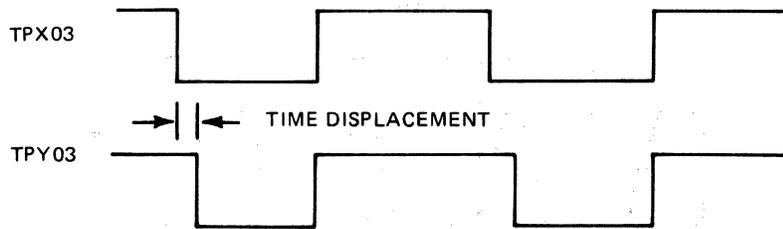

Figure 5-5. Output Waveforms (TP103, TP203, TP603, TP703)
- b. Using the maintenance switch SW1, run the tape forward. Observe the time displacement between the two signals displayed on the oscilloscope (see figure 5-5). Calculate the amount of displacement (refer to table 5-4).
- b. Use the maintenance switch SW1 to run the tape forward and monitor TP203 through TP903 with Channel B of the oscilloscope. Record the time displacement between Channels A and B of the oscilloscope (see figure 5-5).
- d. Using the maintenance switch SW1, run the tape forward. Observe the time displacement between the two signals displayed on the oscilloscope (see figure 5-5). Calculate the amount of displacement (refer to table 5-4). If displacement is less than 100 microinches, no shimming is required. If the displacement is greater than 100 microinches and TP707 is the leading signal, the guide on the capstan side of the head assembly should be shimmed. Otherwise, shim the other guide. The number of shims required can be calculated as follows: